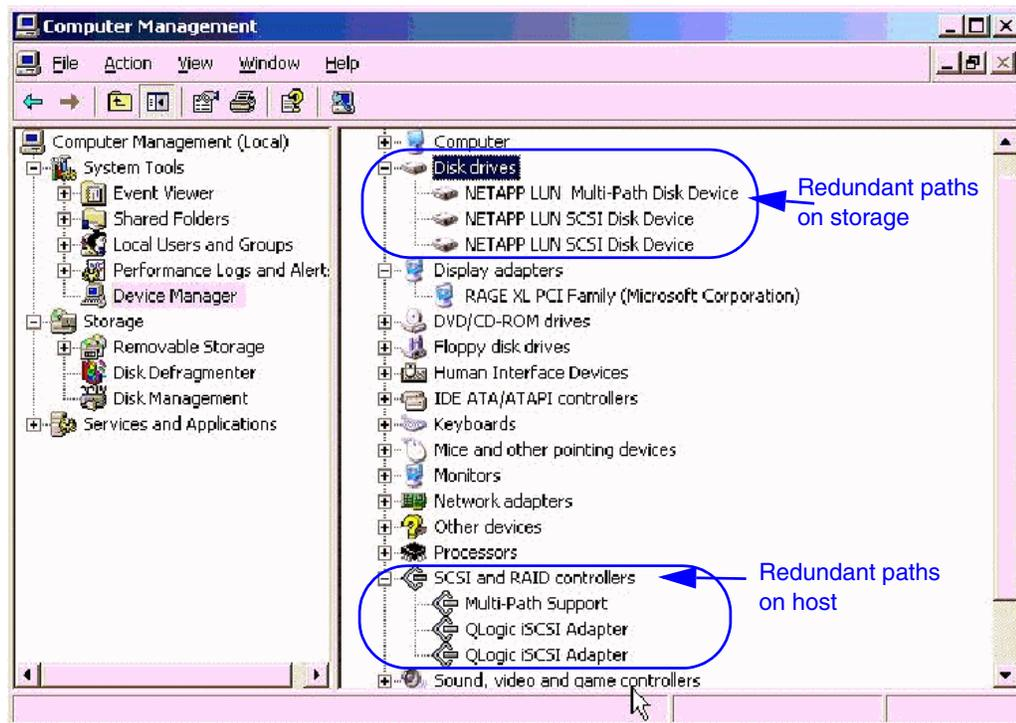

Figure 2-40 Computer Management window
2. Once the Computer Management window is displayed, verify redundancy (dual paths) at the disk and controller levels, as shown in Figure 2-40.